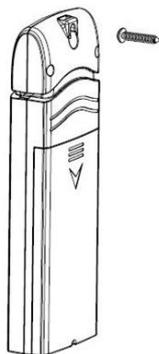

Figure 6
1. Use a screw or nail to affix the remote sensor to the wall, as shown in Figure 6